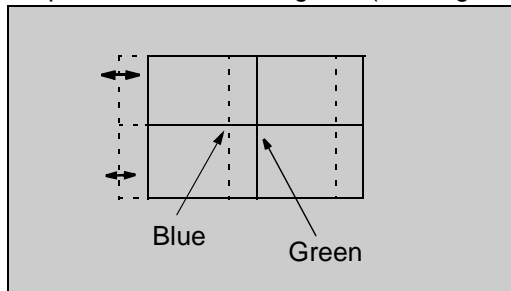

Figure 45. **B-STATIC adjustment**
38. Adjust B-STATIC so that the center of blue overlaps with the center of green (See Figure 45).